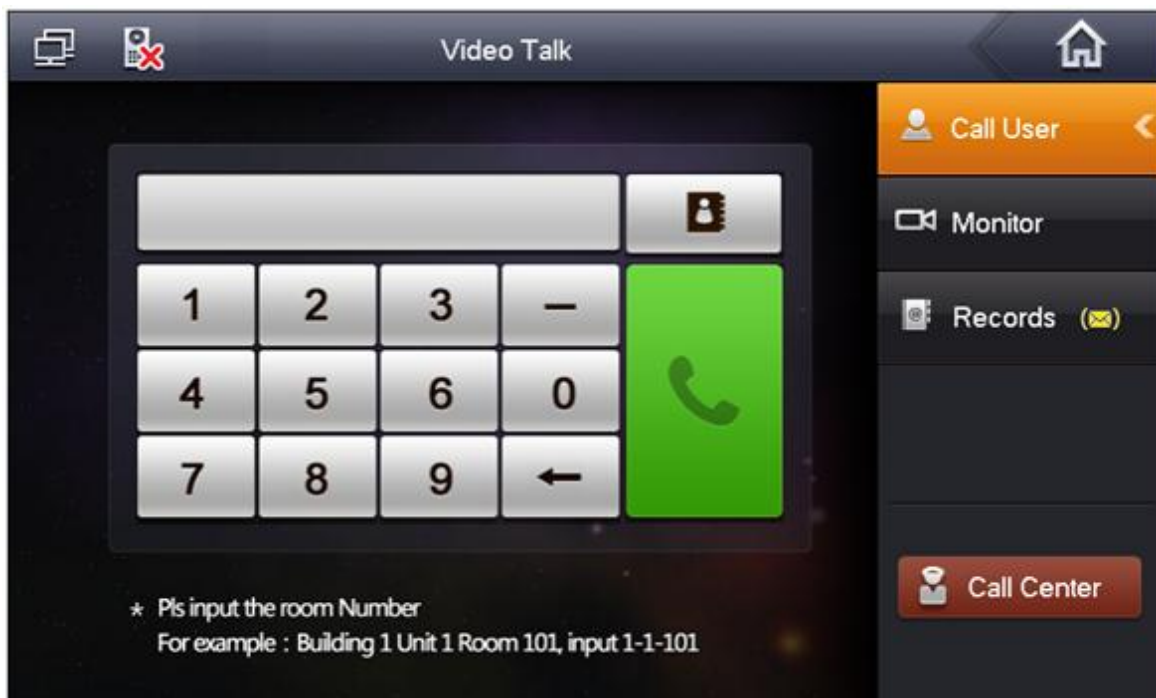

Figure 3- 2
Step 1. Click  , Input room no. of user to call (i.e. Building 1, Unit 1, Room 101 is 1-1-101), press  icon to call. When the user being called answers the call, user can have a bidirectional talk. See Figure 3- 2.